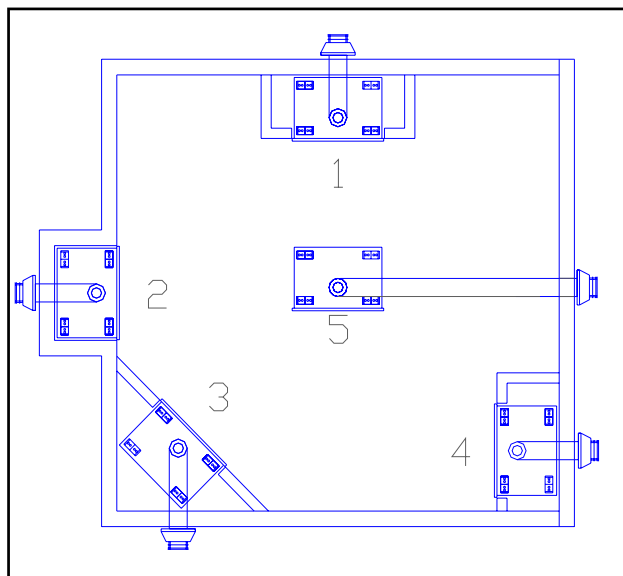

Fig. 1 – Installation Placement Options
- 4) The Alpine TR42 fireplace can be installed into many different applications. See Figure 1 for examples.